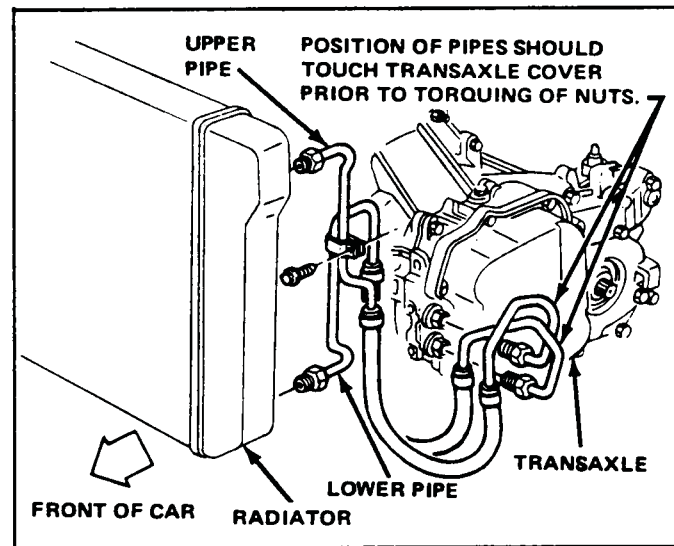

Figure 7A-24 Transaxle Cooler Pipes
4. Remove eleven bolts securing valve body cover to transaxle, Figure 7A-28. Discard cover gasket.